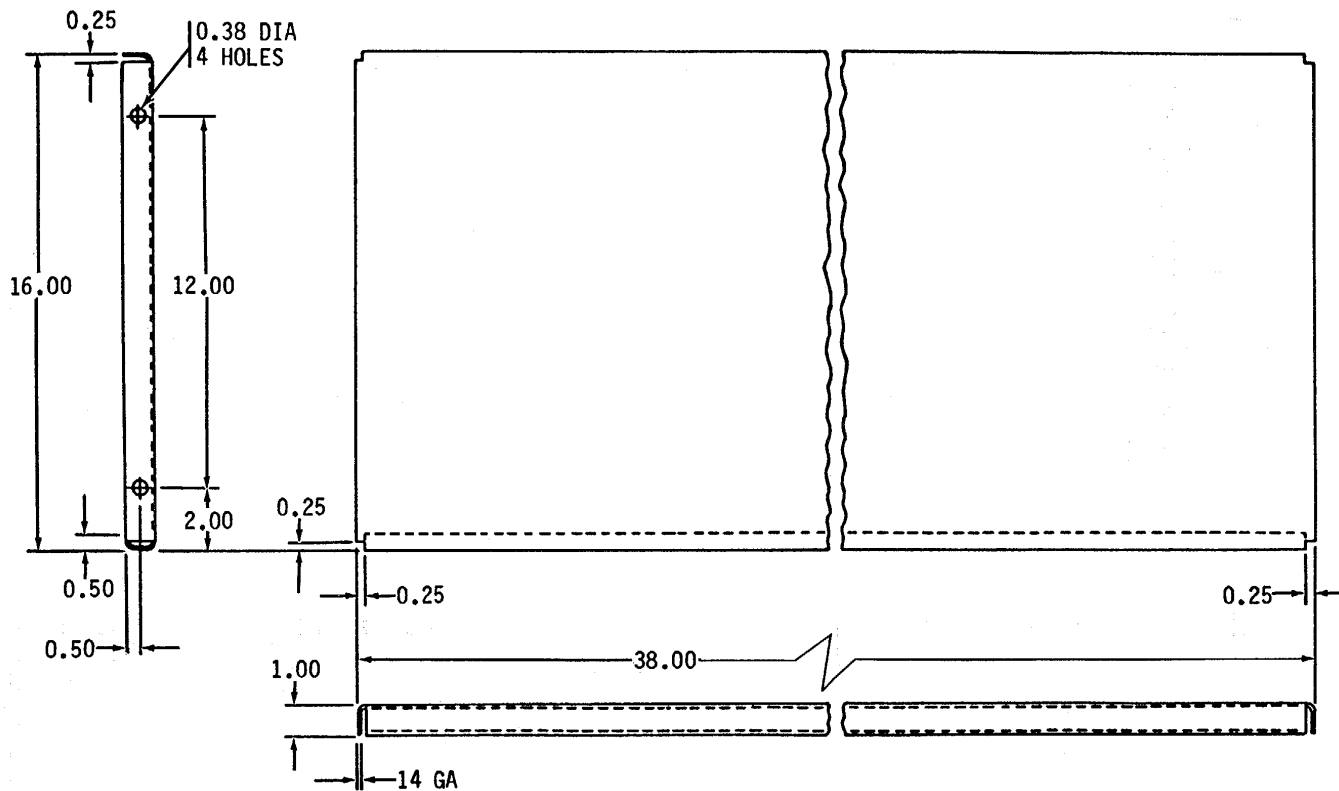

Figure 22. Dimensions for Shelf-11021210, Unit 2, ISO.
c. Fabricate two support angles (11021208) in accordance with figure 20. Fabricate one bench top (11021209) in accordance with figure 21. Fabricate one shelf (11021210) in accordance with figure 22
(1) Mark and drill four 0.41-in. diameter holes in bottom plate of 20 drawer cabinet (7125-00-999-1123). Locate at the four corners allowing for minimum required clearance for 0.38-in hex head capscrews.